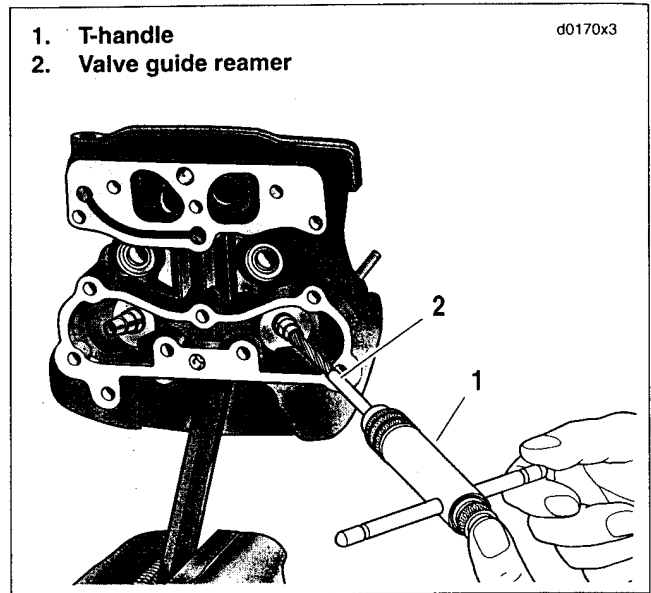

Figure 3-97. Reaming Valve Guide Bore
5. See Figure 3-97. Obtain the VALVE GUIDE REAMER (Part No. HD-39932), REAMER T-HANDLE (Part No. HD-39847) and REAMER LUBRICANT (Part No. HD-39964).
- a. Install T-handle (1) on reamer (2).